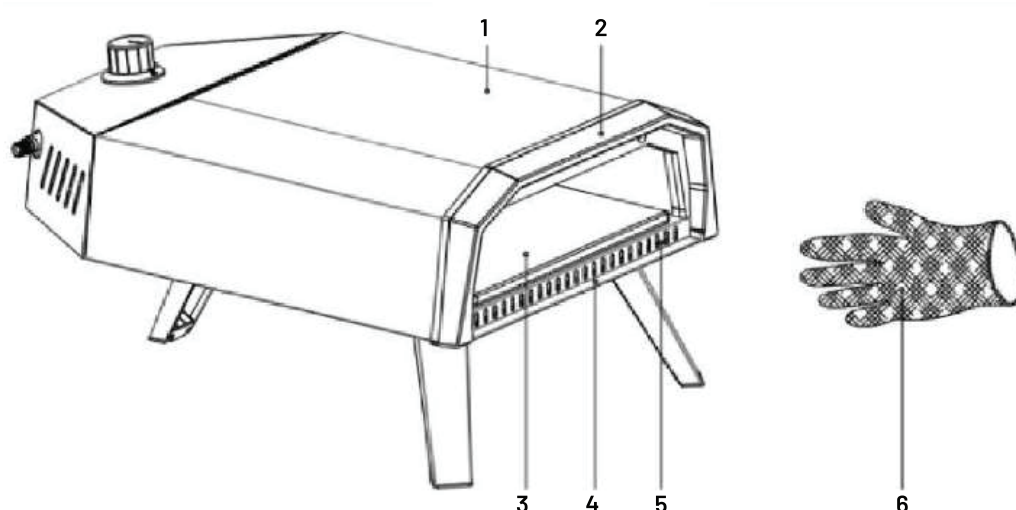

Figure 14
2. As shown in Figure 14, the working surfaces, including the body, gate frame pizza stone, base, and pizza stone supporter, become very hot during operation. After use, always turn off the oven.